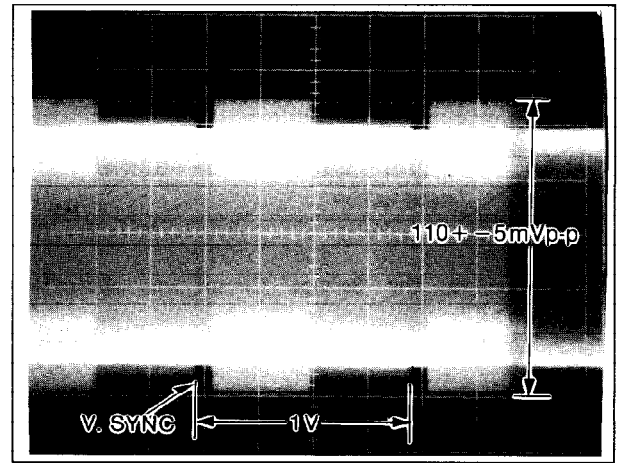

Fig. E5
6. Adjust VR3002 for  $110 \pm 5\text{mVp-p}$  as shown in Fig.E5.